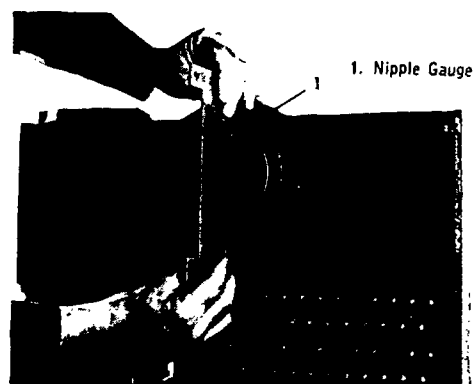

FIG. 2—Gaging Nipple
3. Drive nipples squarely into section, using block of wood and hammer or preferably an aluminum headed hammer if available. Gage nipples in both directions to insure that they are driven squarely and to proper depth in nipple openings; nipple setting gage is provided for 4" nipples. Cutout in gage should rest on both sides of nipple when legs of gage are touching finished ribs on section. See Fig. 2.